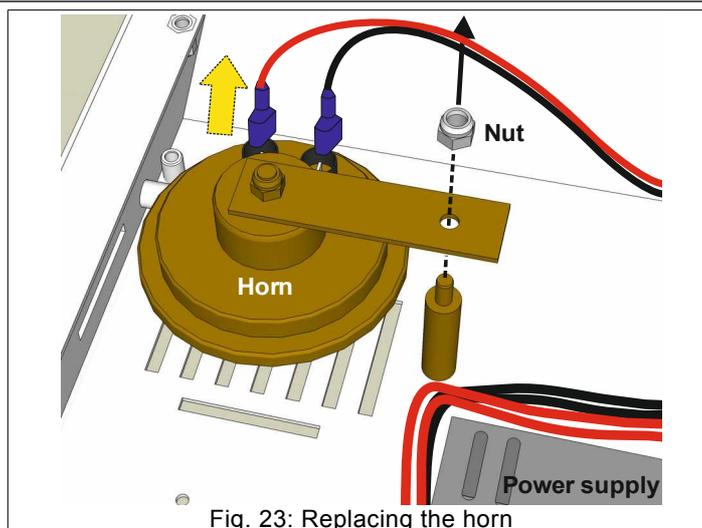

Fig. 23: Replacing the horn
2. Identify the horn in need of replacement (Fig. 23); disconnect the cables (red: +, black: -) from the connectors.